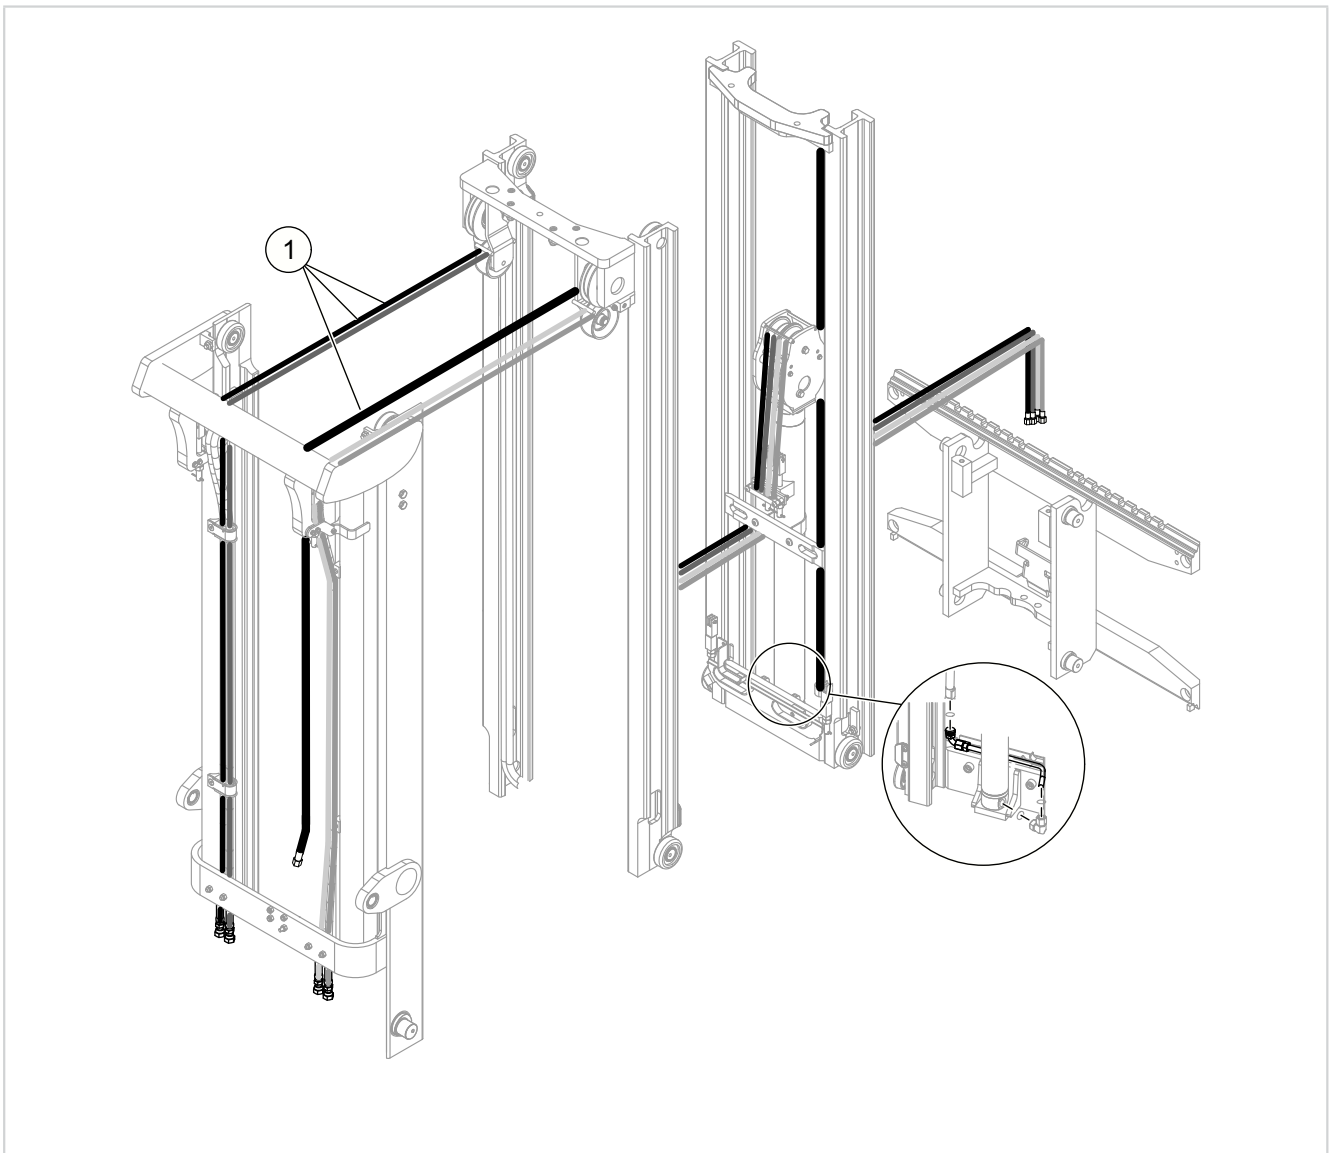

Fig. 158 (35108)
1. See Figure 158. Verify the hydraulic hoses (1) per the hydraulic schematic of the lift truck. Make sure that the O-rings are in the face seal fittings before connecting.